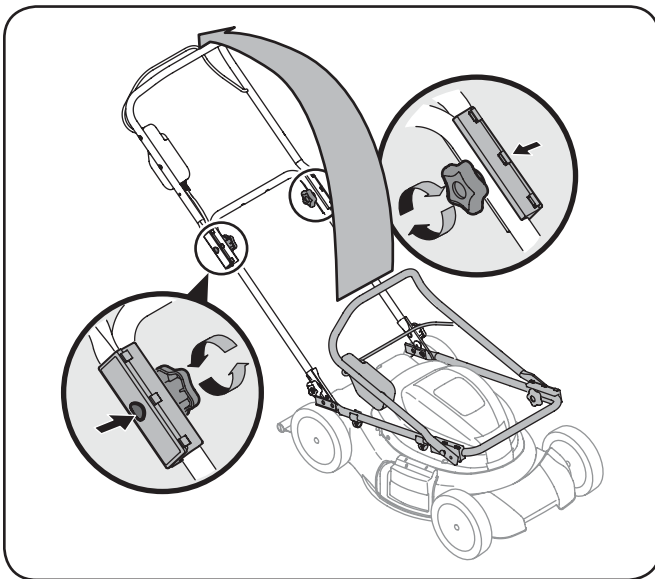

Figure 3-1
- b. Gently lift and pivot the upper handle into the operating position as shown in Fig. 3-1. Make certain the lower handle is seated securely into the handle mounting brackets.